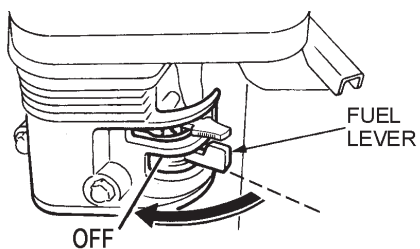

Figure 14. Fuel Valve Lever (OFF Position)
3. Place the **fuel valve lever** (Figure 14) in the **OFF** position.